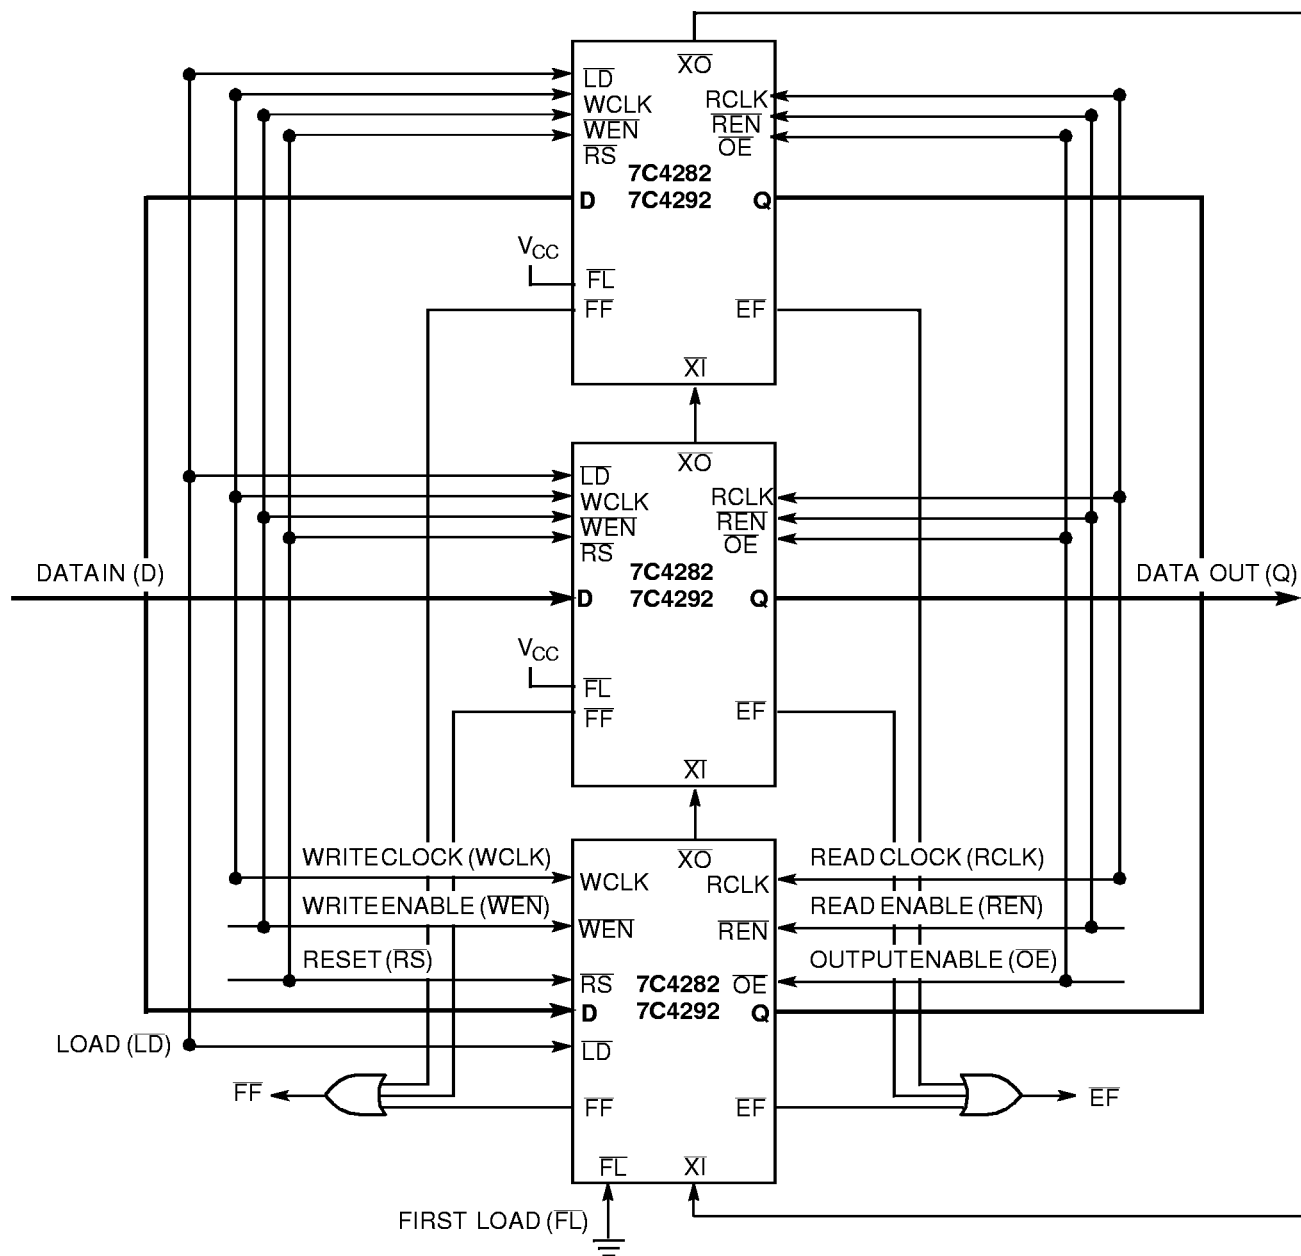

Figure 3. Block Diagram of 64Kx9/128Kx9 Synchronous FIFO Memory with Programmable Flags used in Depth Expansion Configuration
During reset of the FIFO, the state of the XI/LD pin determines if depth expansion operation is used. For depth expansion operation, XI/LD is tied to X_O of the next device. See “**Depth Expansion Configuration**” and *Figure 3*. For Standalone or width expansion configuration, the XI/LD pin must be asserted low during reset.
The CY7C4282/92 can easily be adapted to applications requiring more than 64K/128K words of buffering. *Figure 3* shows Depth Expansion using three CY7C4282/92s. Maximum depth is limited only by signal loading. Follow these steps:
- The CY7C4282/92 can easily be adapted to applications requiring more than 64K/128K words of buffering. *Figure 3* shows Depth Expansion using three CY7C4282/92s. Maximum depth is limited only by signal loading. Follow these steps:
1. The first device must be designated by grounding the First Load (FL) control input.
3. The Expansion Out (XO) pin of each device must be tied to the Expansion In (XI) pin of the next device.
4. All Load (LD) pins are tied together.